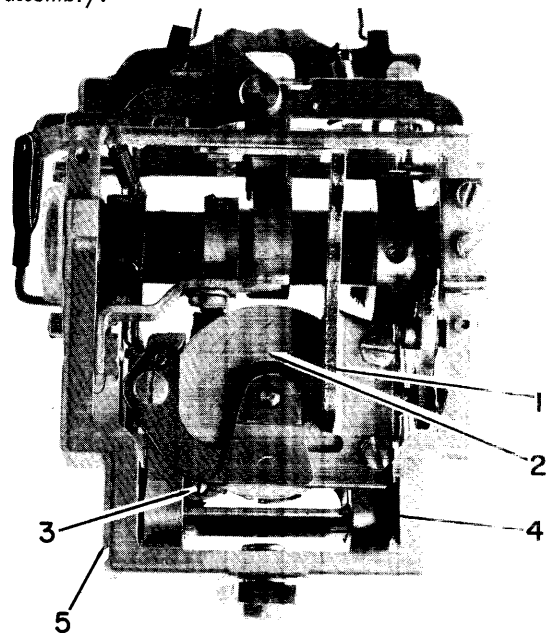

Figure 60. Carrier and Rocker Removal
14. Remove anvil striker (#1, Figure 60).
15. Remove rotate spring, cage and pulley (#2, Figure 60).
16. Remove tape guide (#3, Figure 60).
17. Remove "C" clip on rocker shaft (#4, Figure 60).
18. Loosen rocker shaft set screw and remove rocker shaft (#5, Figure 60).